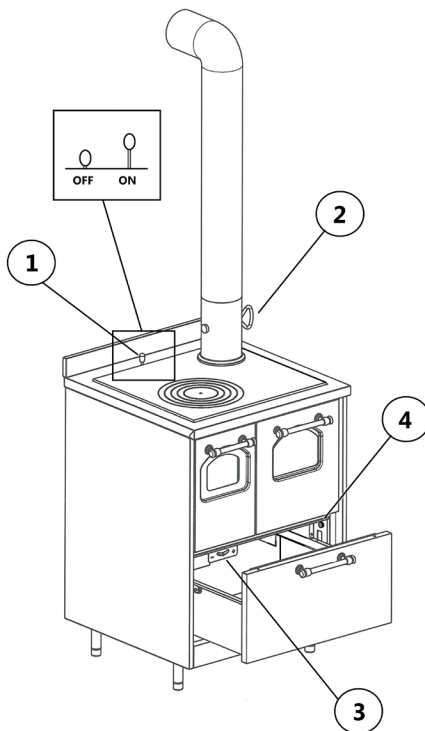
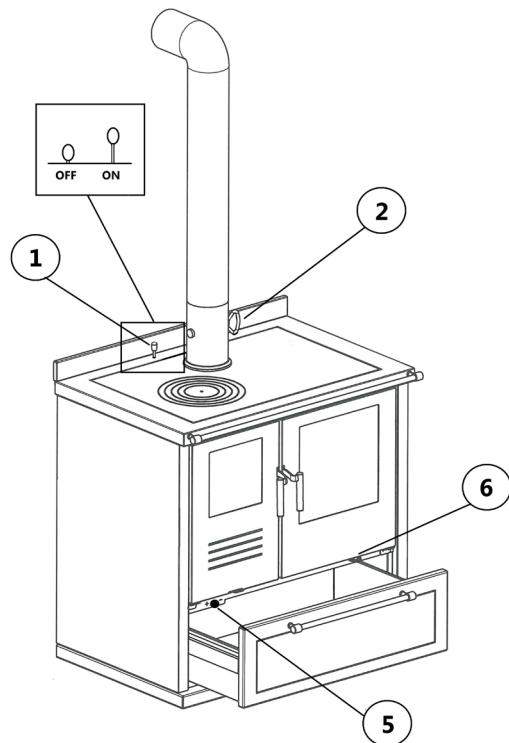

Fig. 13 - Stove example 1
Fig. 14 - Stove example 2
LEGENDA Fig. 13 page 16 Fig. 14 page 16
- Completely open the primary air inlet register, open the start-up valve (present only on stoves with oven) and the damper (see **Fig. 13 page 16** and **Fig. 14 page 16**).
(see **Fig. 13 page 16**) and the start-up valve in order to have the maximum performance (nominal output) with the lowest fuel consumption.
Master and Gemma models (see **Fig. 14 page 16**) are endowed with a primary air register with an automatic valve through a probe which automatically opens and closes according to heart inner temperature. When the flame is high the valve closes in order to let see less air. So it is advisable once having ignited the fire to keep the valve at (-).
Once the start-up valve has been closed, if fume have difficulties in turning around the oven, there is an additional fume valve below the oven (see **Fig. 14 page 16**), by pulling the lever the fume passage is shortened.
Some models are endowed with a forced ventilation system with a manual reset: turn it on and off through the switch (see **Fig. 13 page 16**).